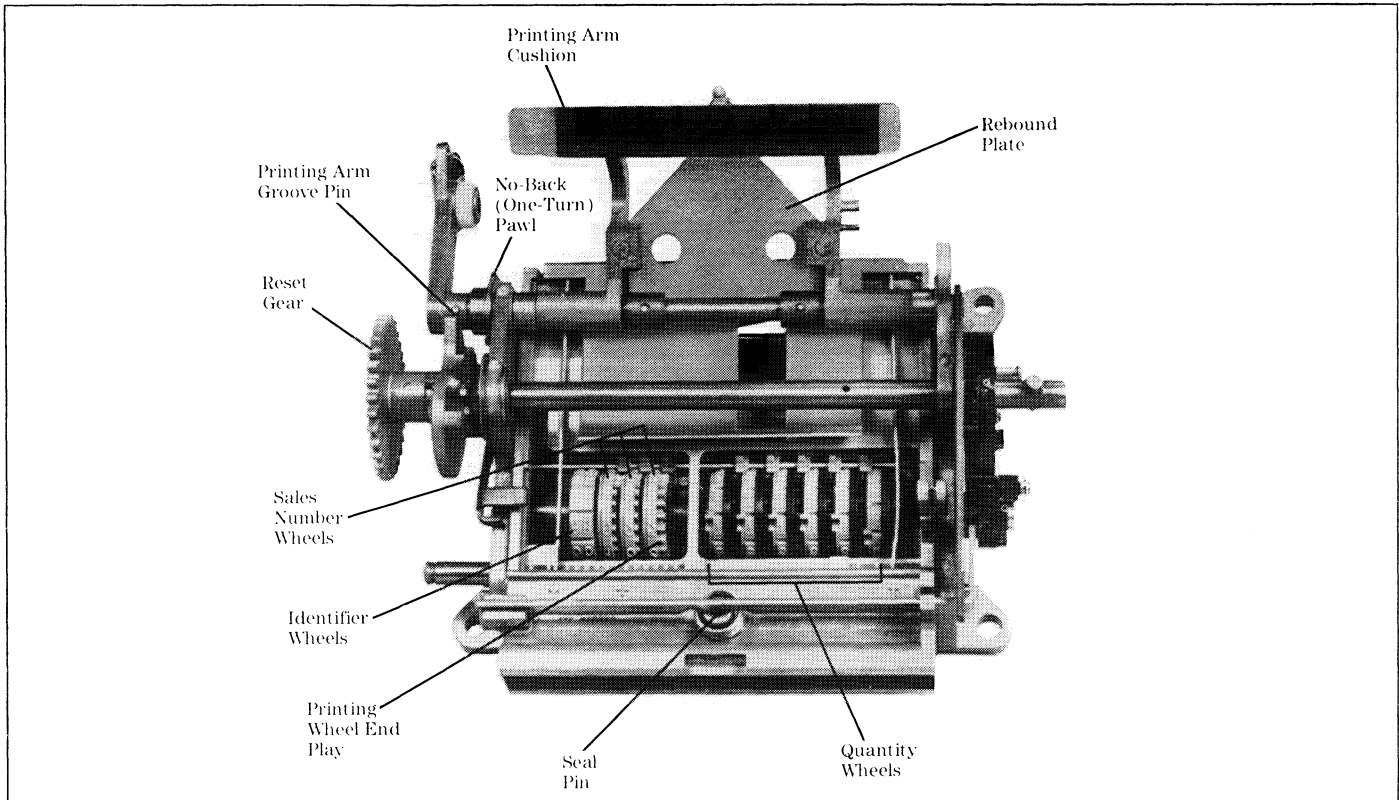

Figure 11. Parts Identification
**A. GENERAL CHECKS.** (Figures 11 through 15). If the reason for the trouble is unknown, it is necessary to examine the printer to locate and replace malfunctioning parts.